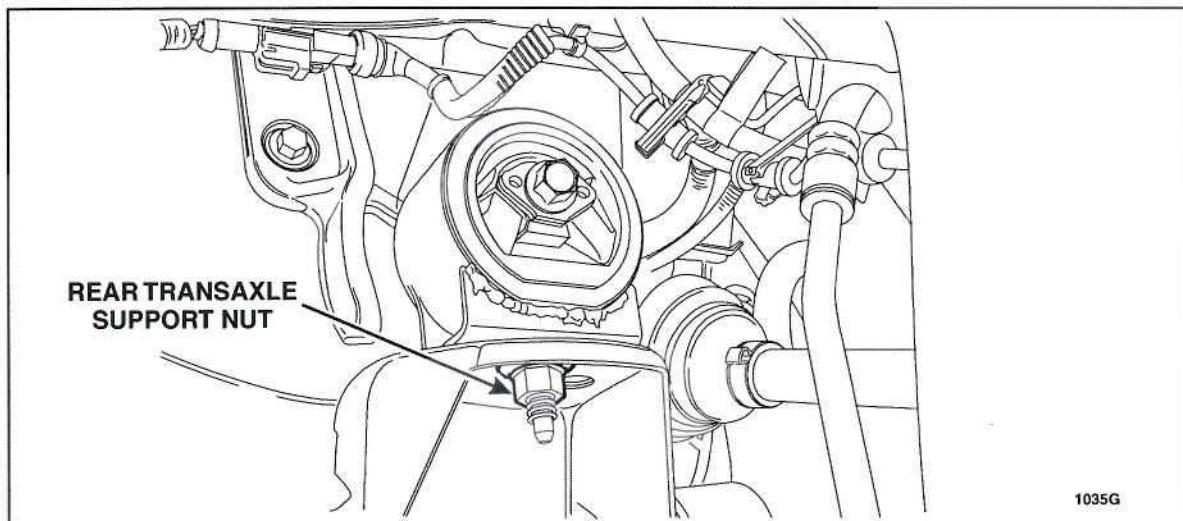

FIGURE 17
37. Remove the rear transaxle support nut. See Figure 17.